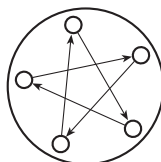

Figure 9:
1. Use a 3/32" hex driver to remove the 5-40 socket head screws that secure the stator to the valve body. Alternate among the five screws in the sequence indicated in **Figure 9**, loosening them in quarter-turn (90°) increments until all load is removed.
2. Replace the stator. Insert the five socket head screws and tighten them gently until they start to get snug. Alternate among the five screws in the sequence indicated in **Figure 9**, tightening them in quarter-turn (90°) increments until the stator is flush against the valve body.